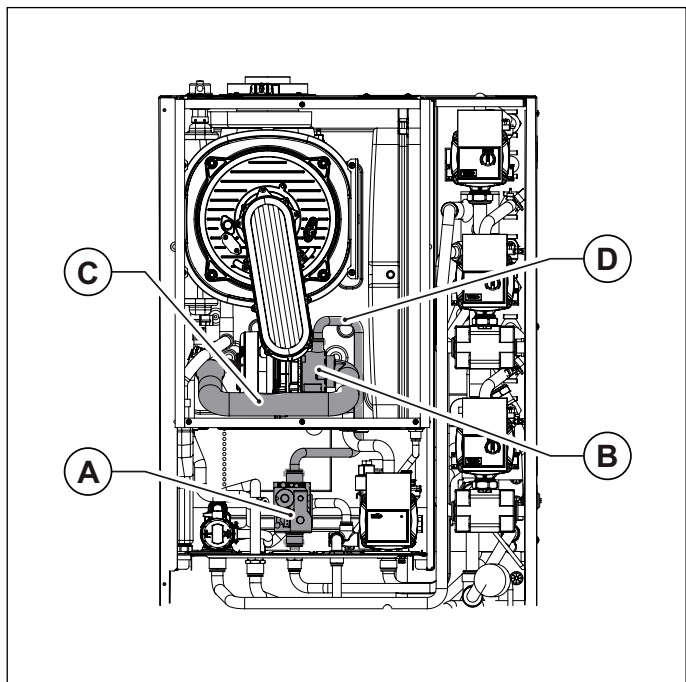

Fig. 34 Intake pipe
- Loosen the screw securing intake pipe to mixer, and remove pipe (see Fig. 34 Intake pipe).
- Disconnect the gas pipe from the mixer (see Fig. 34 Intake pipe).